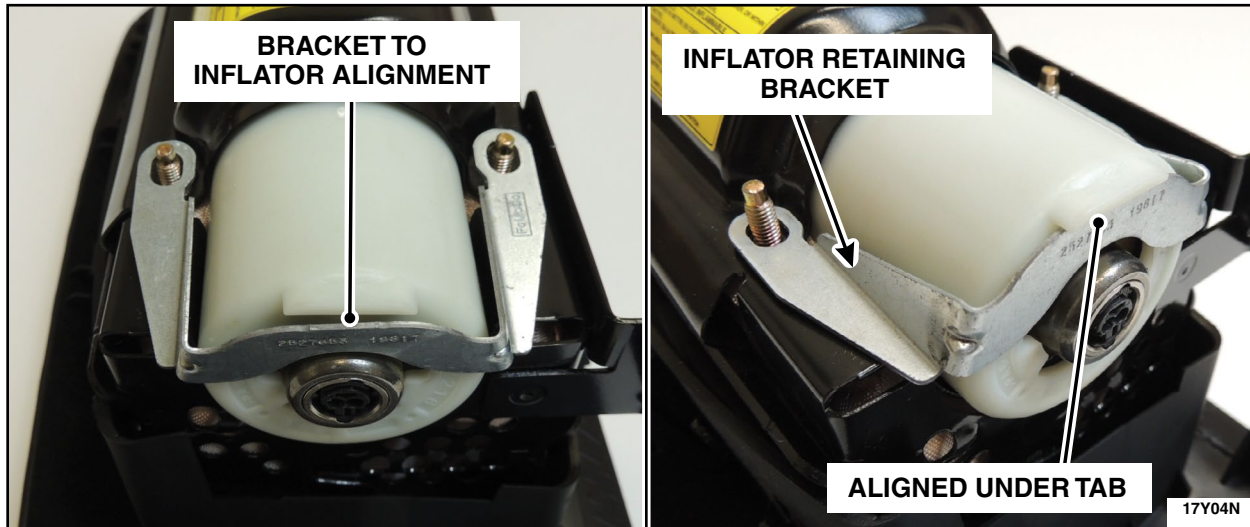

FIGURE 14
12. Align and Install the *new* inflator retaining bracket . See Figure 14.